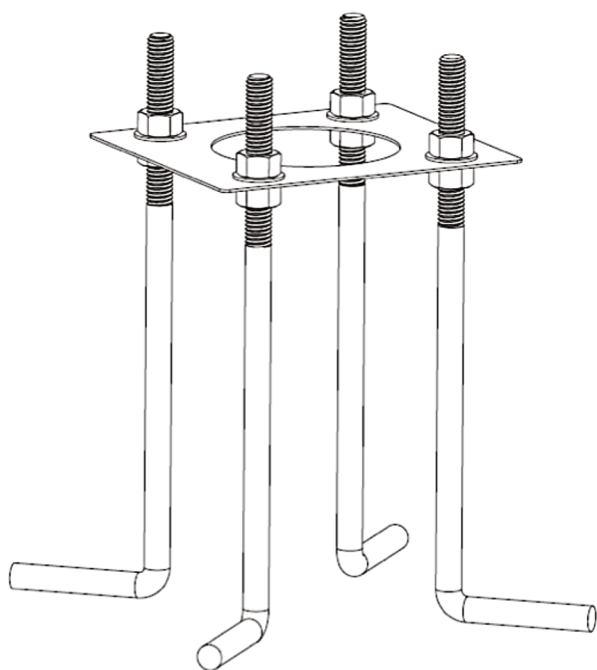

Fig. 1
- 1.) Secure the four (4) L-bolts to the mounting template using the eight (8) 3/8-16 nuts and eight (8) 3/8 flat washers (refer to **Fig. 1**).